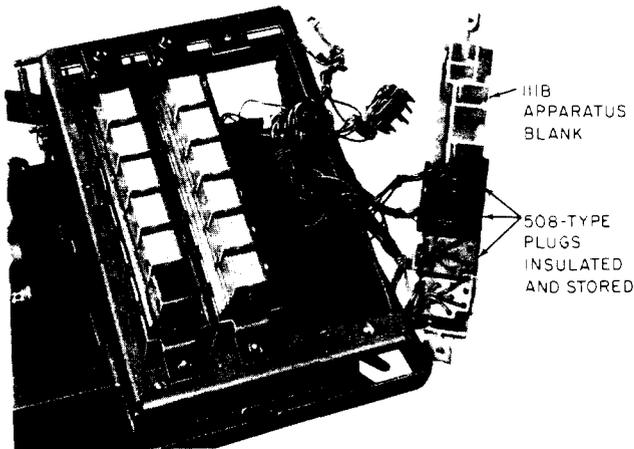

Fig. 14—Insulating and Storing 508-Type Plugs on 111B Apparatus Blank
2.23 Insulate and store unused 508-type plugs on the 111B apparatus blank as shown in Fig. 14. Individual 508-type plugs can be insulated and stored by taping an 814632659 (P-46C265) cover over the contacts of the plug.